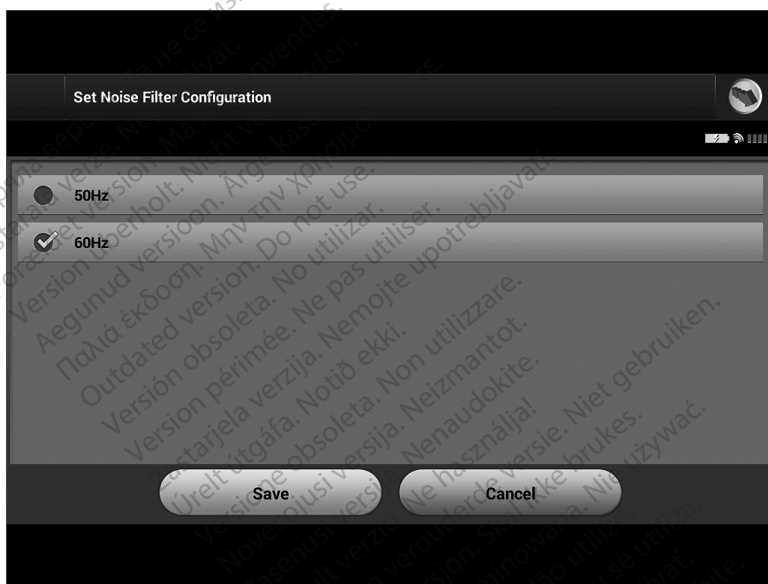

Figure 12. Set Noise Filter Configuration screen
1. Select Set Noise Filter Configuration on the S-ICD Programmer Settings screen (Figure 12 Set Noise Filter Configuration screen on page 19). to display the noise filter configuration screen.